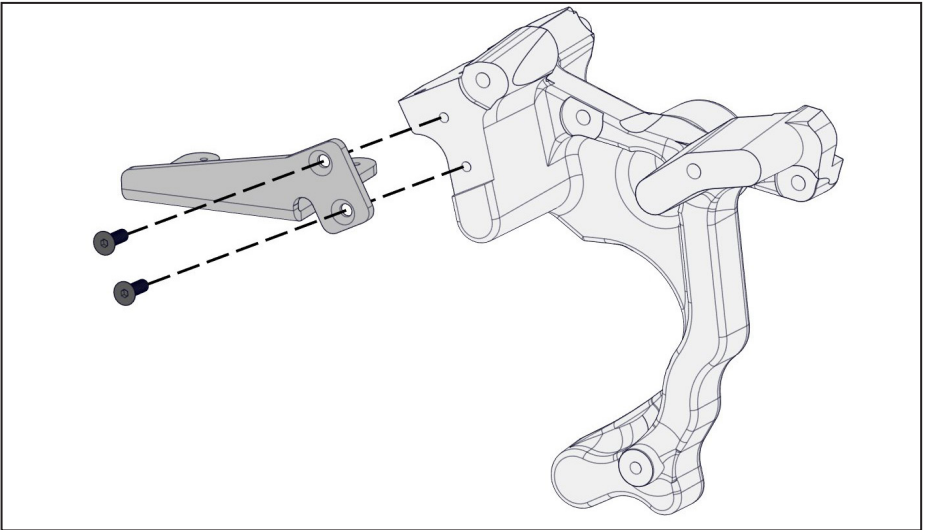

Figure 16 — Install vacuum pump relocation bracket
- ☐ **Vehicles equipped with vacuum pump only:** Using the supplied flathead M8 × 25 fasteners, install the vacuum pump relocation bracket (Figure 16).